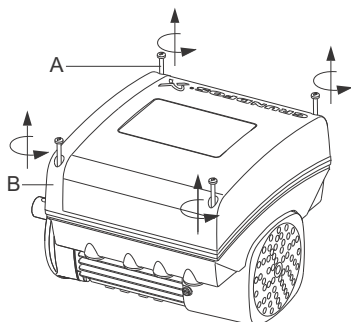

Fig. 45 Removing terminal box cover
2. Remove the terminal box cover by loosening the four screws (fig. 45, pos. A) and lifting the terminal box cover (fig. 45, pos. B).
12. Fit the terminal box cover (fig. 45, pos. B) and cross-tighten the four mounting screws (fig. 45, pos. A) to a torque of 6 Nm.